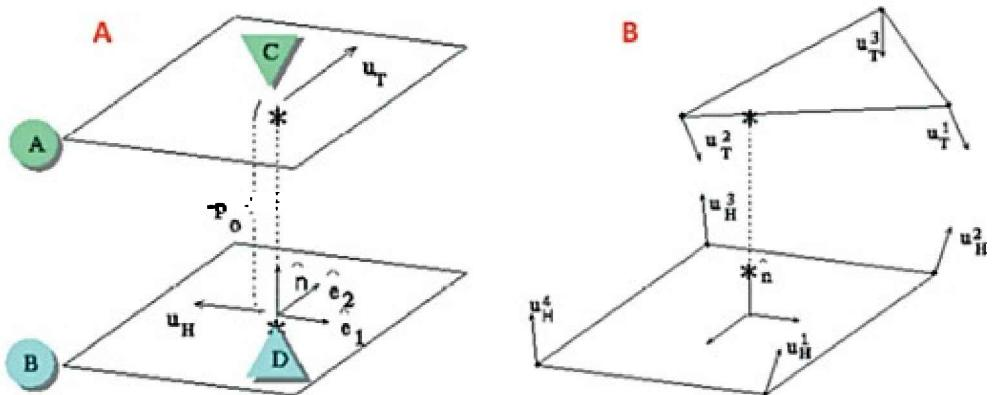

Figure 1.13. Interaction diagram for the contact pair of elements
Figure 1.13 shows free faces of elements of the target (A) and source (B) surfaces. As the model is deformed, the point on the source face (acting point, D) moves relative to the target face. The solution involves constructing three mutually perpendicular unit vectors through the acting point D: tangential vectors e_1 and e_2 , and vector n that is normal to the source face. The point where the normal vector n intersects the target face is the target point C. The contact algorithm assumes that the acting point penetrates the target face at target point C. The penetration value is then calculated as follows:
In terms of NX Nastran, the contact pair is the totality of interaction of the acting and target points, as well as the nodal degrees of freedom of source and target faces of elements (Figure 1.13, B).